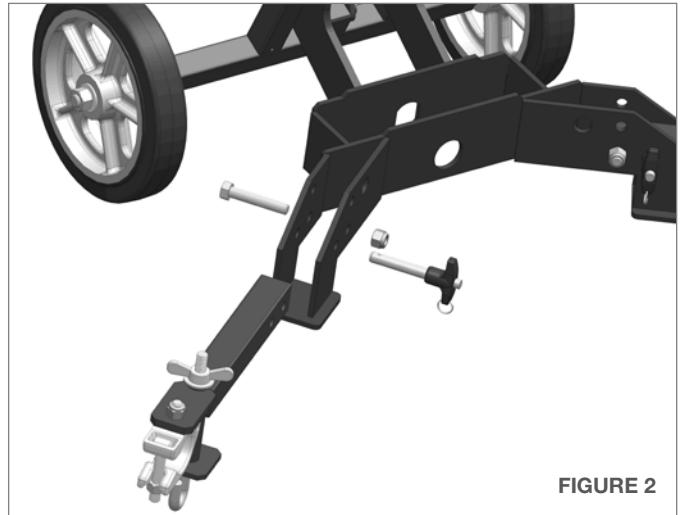

FIGURE 2
2. Install the supplied 1/2" Bolt and Lock Nut as shown in **(Figure 2)**. Insert Quick Release Pins where shown after bolts are tightened and range of motion is tested.
2. Insert the Downrigger Leg Assembly and secure with the 1/2" Bolt, Lock Nut, and Quick Release Pins as shown in (**Figure 2**).